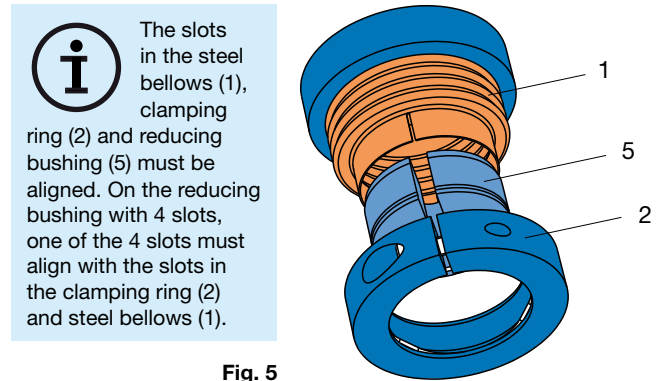
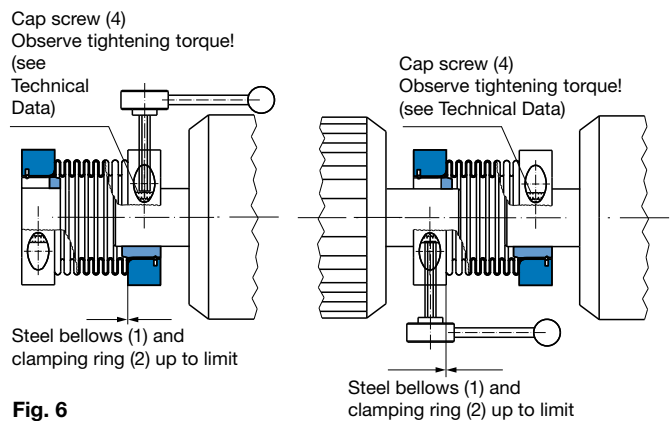
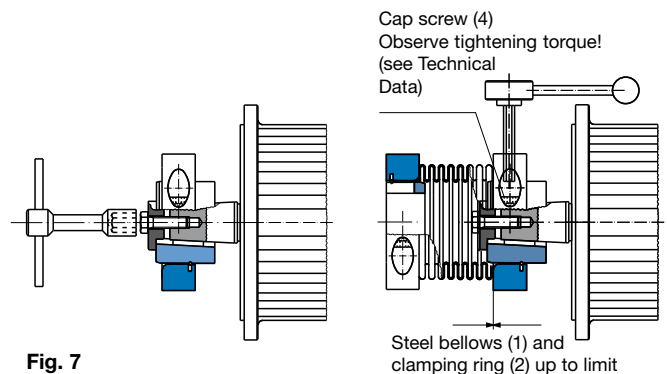
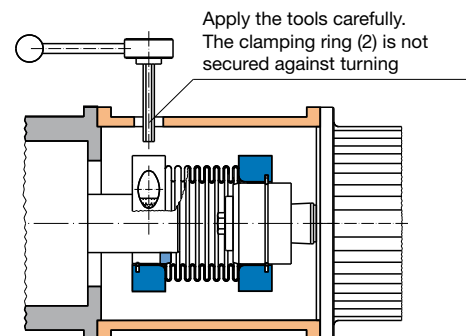

Fig. 5
Fig. 6
Fig. 7
Fig. 8
- Avoid damage to the steel bellows (1) before and during installation.
- The clamping ring (2) with the holding spring (3) must be engaged in the reducing bushing (5) or reducing bushing with tapered bore (6).
- In order to transfer the defined torques in Table 1 (page 5) correctly, the slots in the steel bellows (1), clamping ring (2) and reducing bushing (5) must be aligned (see Fig. 5).
– see also Fig. 6 and Fig. 8
2. Push the entire coupling over the whole length of the reducing bushing (5) onto a shaft.
3. Make sure that the steel bellows (1) is pushed between the clamping ring (2) and the reducing bushing (5) up to its limit, and that the slots in the steel bellows (1), clamping ring (2) and reducing bushing (5) are aligned (see Fig. 5).
4. Tighten the cap screw (4). The screw tightening torques (see Technical Data) must be observed.
5. Push the second shaft over the entire length of the reducing bushing (5) into the coupling.
6. Make sure that the steel bellows (1) is pushed between the clamping ring (2) and the reducing bushing (5) up to its limit, and that the slots in the steel bellows (1), clamping ring (2) and reducing bushing (5) are aligned (see Fig. 5).
7. Tighten the cap screw (4). The screw tightening torques (see Technical Data, page 4) must be observed.
– see also Fig. 7 and Fig. 8
1. Remove the clamping ring (2) with the protruding reducing bushing with tapered bore (6) from the coupling.
3. Push the reducing bushing with tapered bore (6) onto the conical shaft.
5. Push the rest of the coupling with the open steel bellows side up to its limit between the clamping ring (2) and reducing bushing with tapered bore (6).
6. Tighten the cap screw (4). The screw tightening torque (see Technical Data, page 4) must be observed.
7. Push the second shaft over the entire length of the reducing bushing (5) into the coupling.
8. Make sure that the steel bellows (1) is pushed between the clamping ring (2) and the reducing bushing (5) up to its limit, and that the slots in the steel bellows (1), clamping ring (2) and reducing bushing (5) are aligned. (see Fig. 5).
9. Tighten the cap screws (4). The screw tightening torques (see Technical Data, page 4) must be observed.